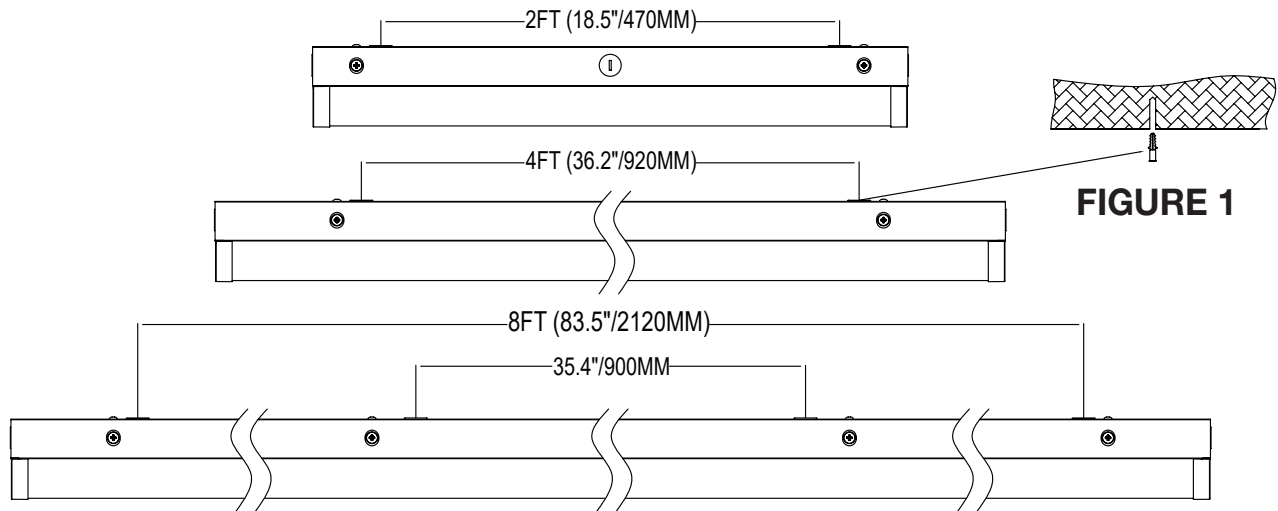

FIGURE 1
1. Based on the length you're mounting, drill holes at the corresponding positions and drive the rubber plugs from the accessory kit into the holes. (Figure 1)